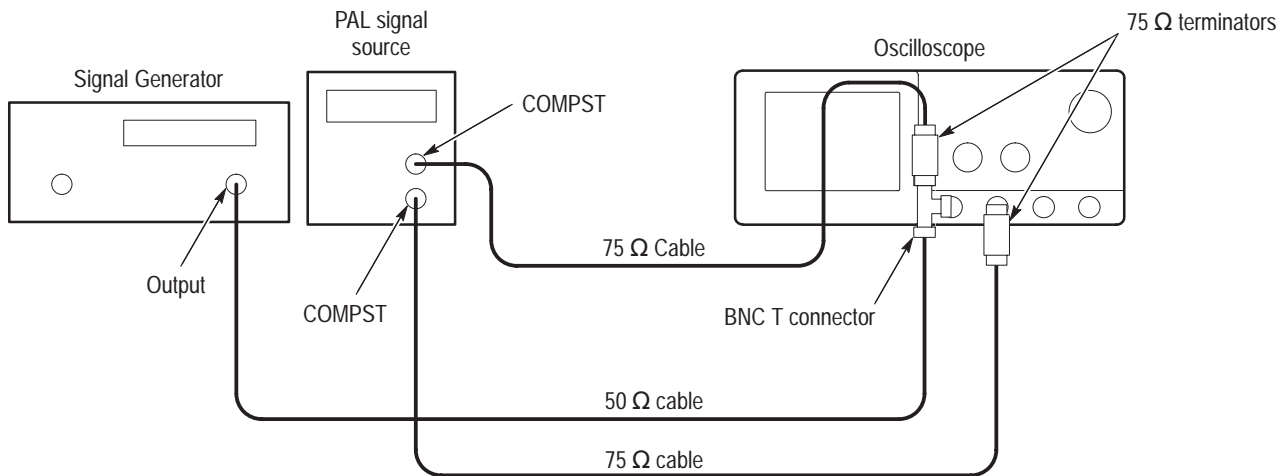

Figure 4–32: Subsequent 60 Hz Rejection test hookup
- Connect another composite signal connector of the PAL signal source (labeled **COMPST** on the TSG 121) through a $75\ \Omega$ cable and a $75\ \Omega$ terminator to the CH2 input. See Figure 4–32.
- CONFIRM that the **TRIG'D** LED stays lighted and that the waveform on screen is stable. In other words, be sure the waveform does not move horizontally or vertically. Also, confirm that the waveform on the screen has one positive pulse and a number of negative pulses. See Figure 4–33.